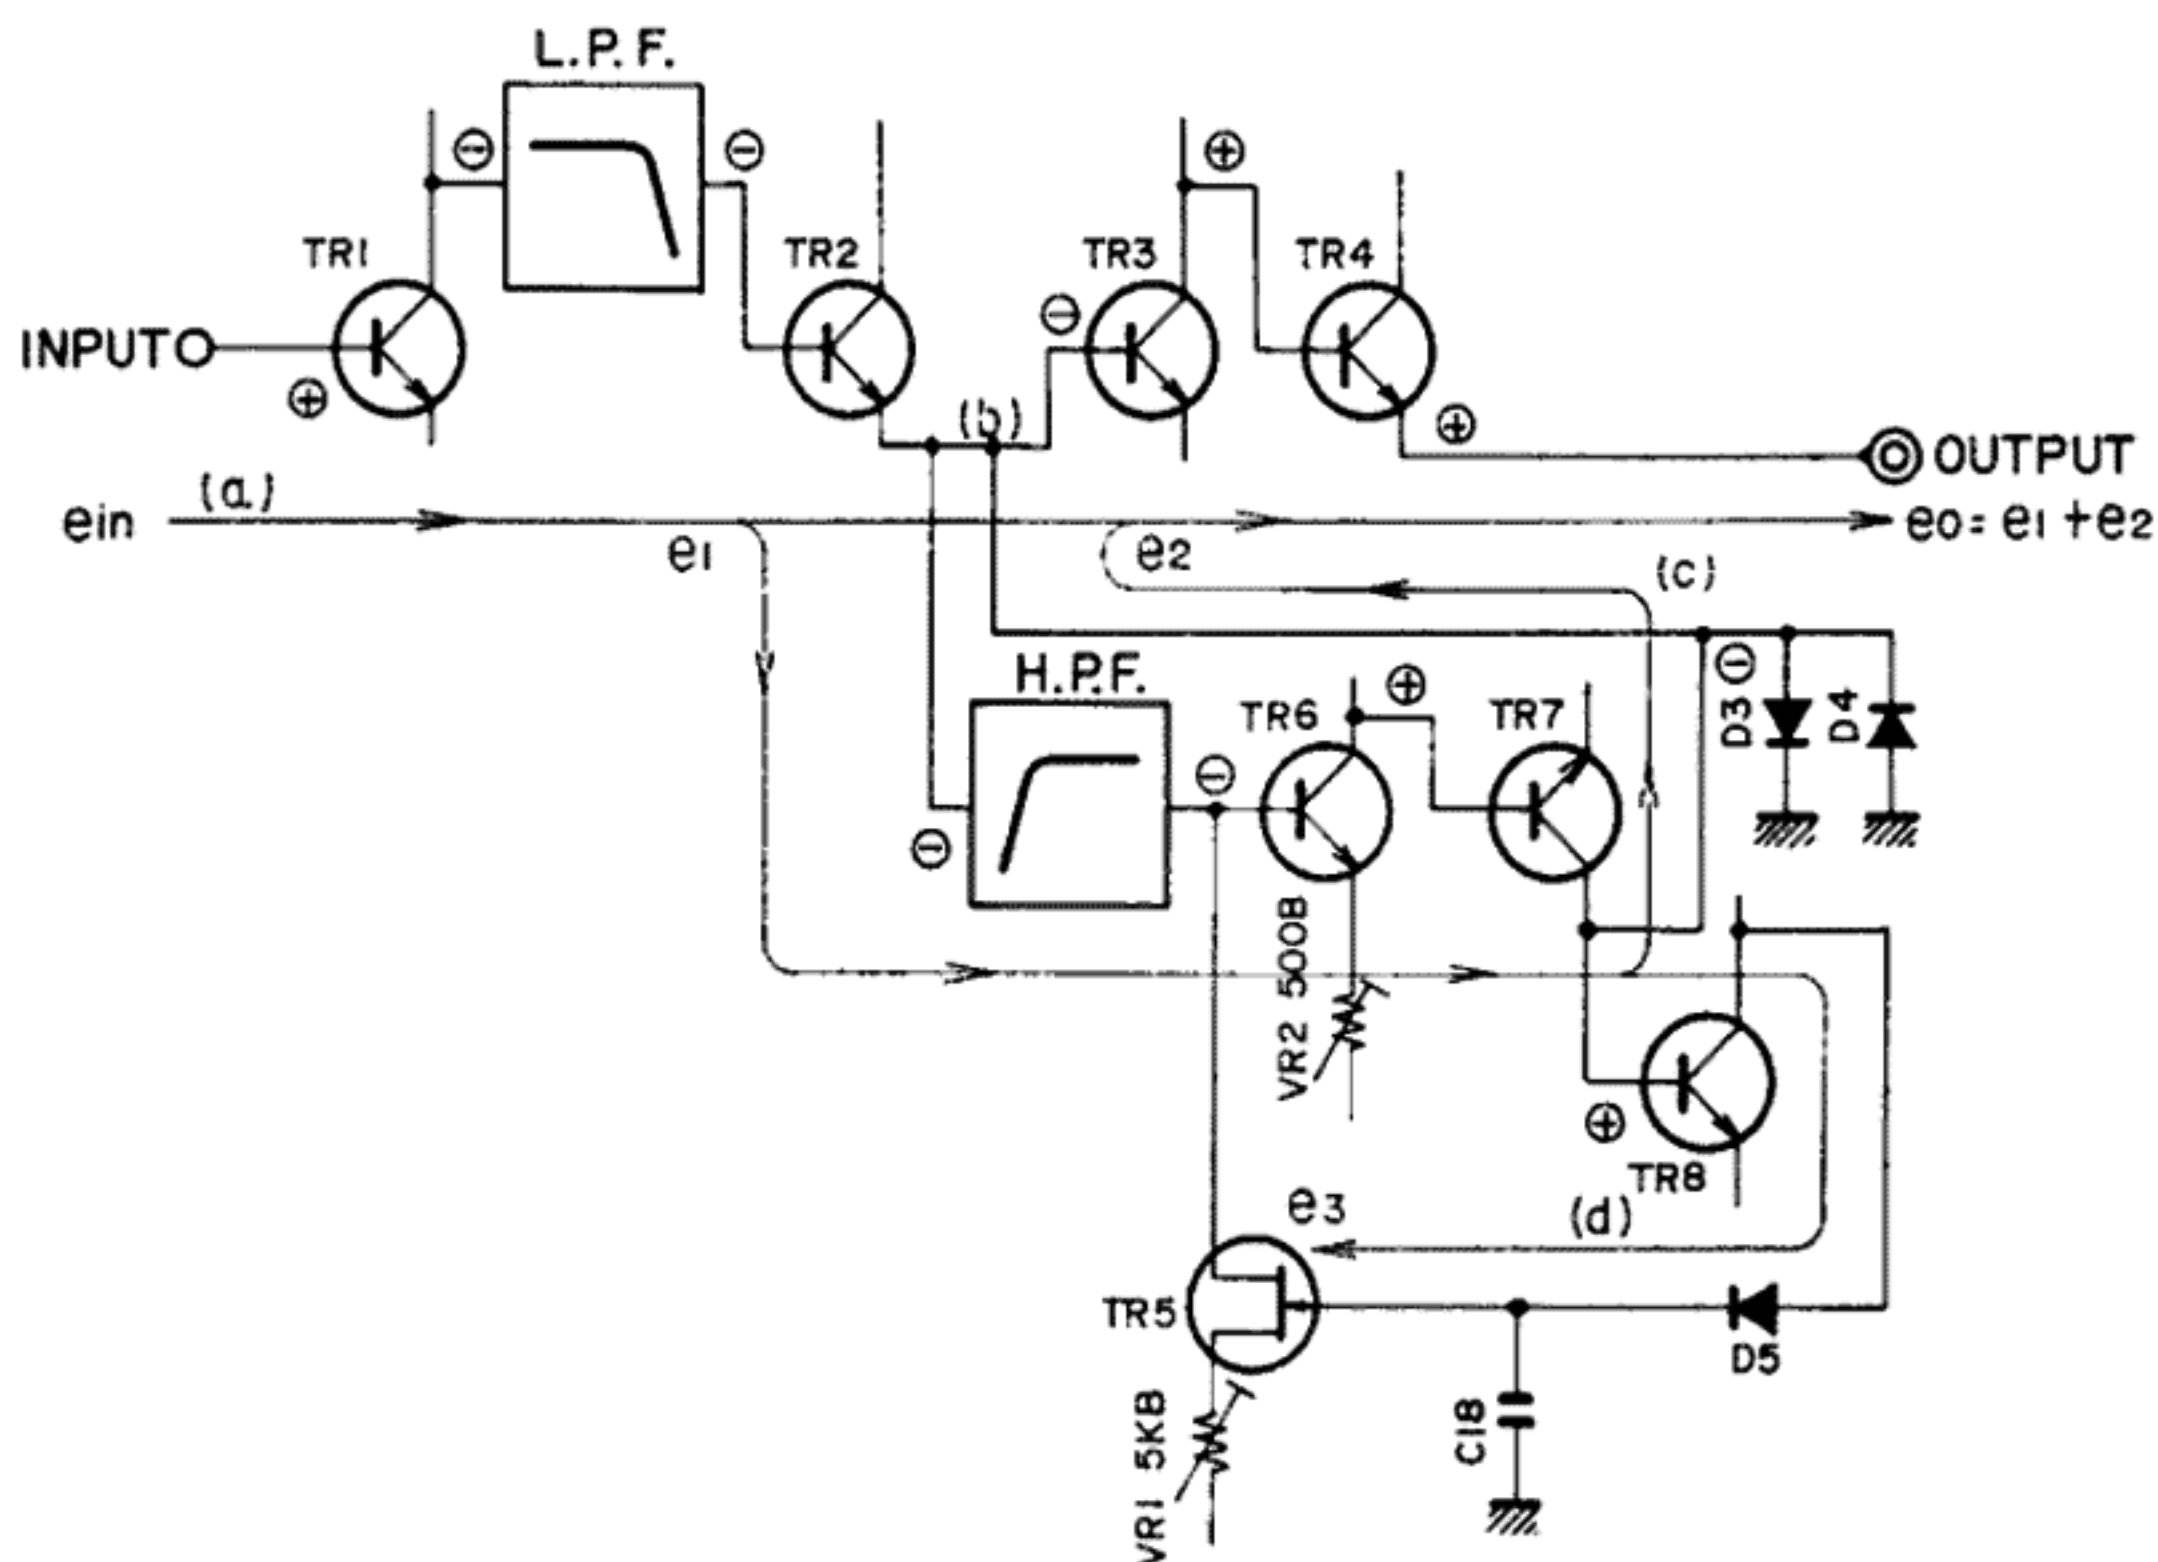

Fig. 27
1. RECORDING DOLBY NR CIRCUIT OPERATION (See Figs. 27 and 28)
- 1) As shown in Fig. 27, at recording time, the input signal passes TR1 and the low pass filter and is supplied to the base of TR2.